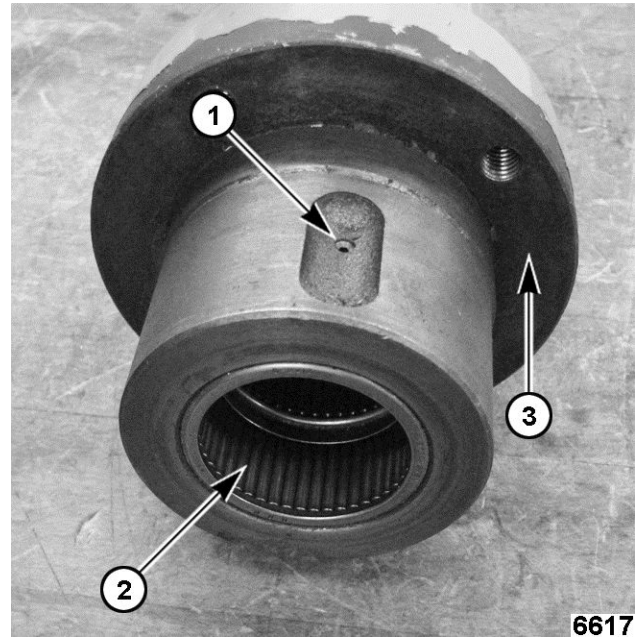

Fig. 80
4. Remove the needle bearings (H600 & P660) (2, Fig. 80) or the ball bearing (L800) from the attachment hub.